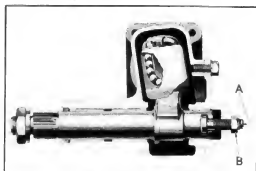

Fig. 2—Lash Adjustment
3. Loosen the lock nut "B" (Fig. 2) and turn the lash adjuster "A" a few turns in a counter-clockwise direction. This removes from worm bearings the load imposed by close meshing of rack and sector teeth. Turn steering wheel gently in one direction until stopped by gear, then back away about one turn.
- After proper adjustment of worm is obtained, and all mounting bolts securely tightened, adjust lash adjuster "A" (Fig. 2). First turn the steering wheel gently from one stop all the way to the other, carefully counting the total number of turns. Then turn wheel back exactly half way, to center position. Mark wheel at top or bottom center with a piece of tape. Turn lash adjuster "A" (Fig. 2) clockwise to take out all lash in gear teeth, and tighten lock nut "B." Check pull at wheel rim with checking scale as before, taking the highest reading of the checking scale as the wheel is turned through center position. This should be between 2 and 2½ pounds. Readjust, if necessary, to obtain proper pull. Tighten lock nut "B" and recheck pull, as it must lie between the specified limits after the lock nut is tightened.